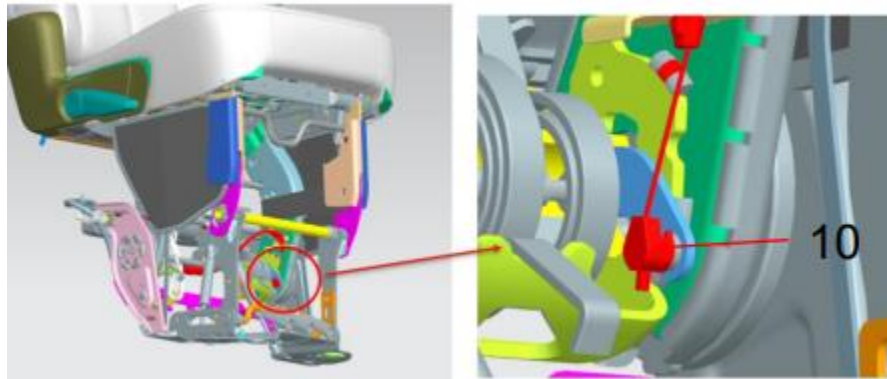

Fig 10.
10. Check and confirm that the cable end fitting (Fig 10) is connected to the rivet on the left rear leg. If the cable end fitting is not connected as per the image shown in Fig 10, inspect for cable damage. If no is damage present, reinstall the end fitting securing the cable onto the rivet. There should be an audible click when fully seated.